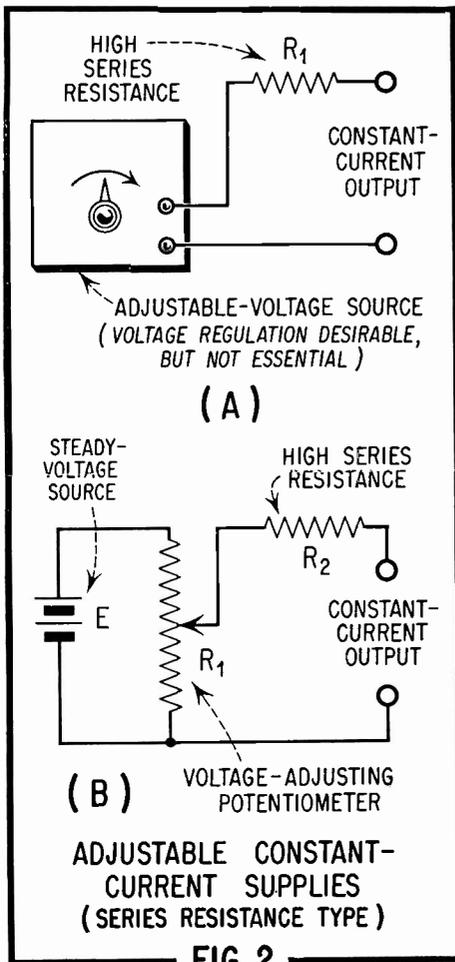

FIG. 2
Figure 2 shows two arrangements for adjusting the constant-current output. Both are series-resistance-type units and secure their adjustable feature through control of the supply voltage. Figure 2(A) shows the simple addition of a high series resistance to an adjustable-output a. c. or d. c. supply. In Figure 2(B); the power source itself is not adjustable, so a voltage-setting potentiometer, R_1 , has been added externally. While a battery is shown for simplicity, E can also be an a. c. source, such as the secondary of a power transformer. It also can be a power-line-operated d. c. power supply.